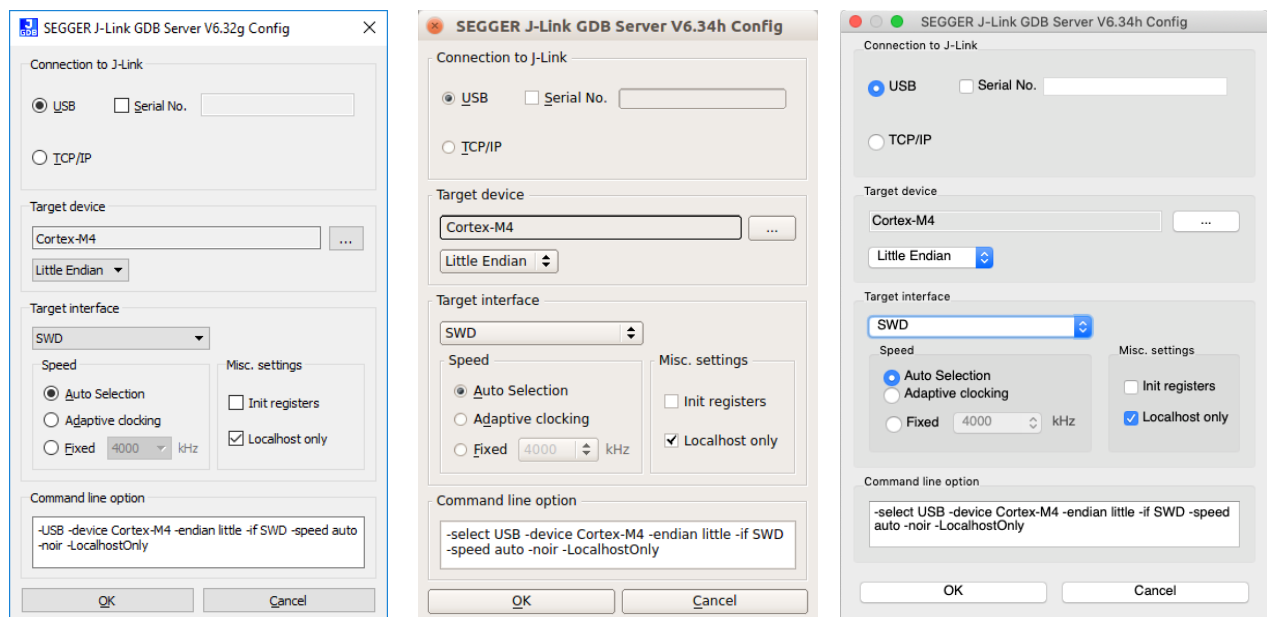

Figure 5-1. SEGGER GUI for Windows, Linux, and mac OS
4. Run the Segger J-Link GDB Server program and set up as shown in Figure 5-1.